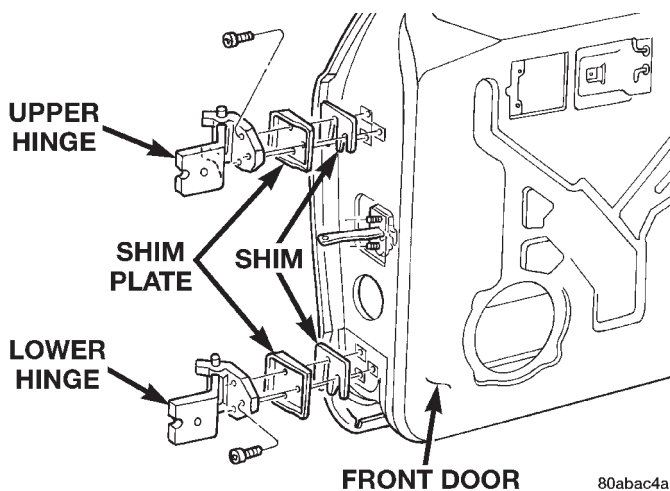

Fig. 26 Front Door Hinge
- (1) Remove door restraint (check) retaining pin.
- (2) For vehicles equipped with power windows, power mirrors and power door locks, remove trim panel and waterdam. Disconnect all components and route wire harness out of door.
- (3) Remove bolts that attach hinge to door. (Fig. 26).
- (4) Remove door from vehicle.